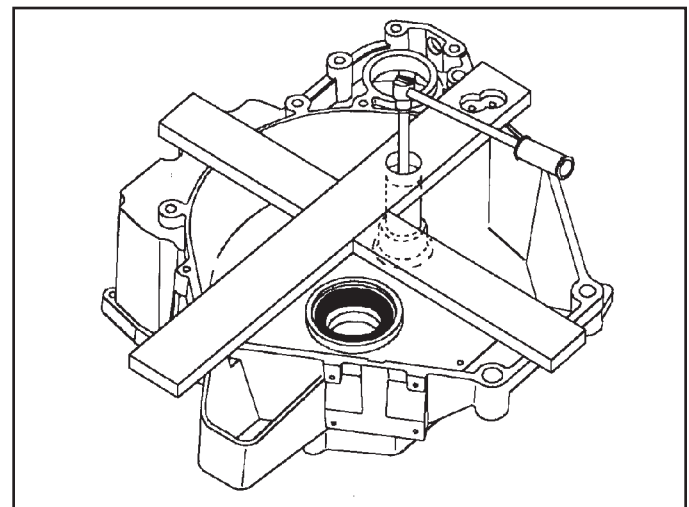

Figure 152
14. If a new output shaft roller bearing is being installed, install Saturn's press fixture SA9129T and pad SA1991T-1 or equivalent. The tool is designed to support the case and prevent case damage as the new bearing is being installed (See Figure 152).